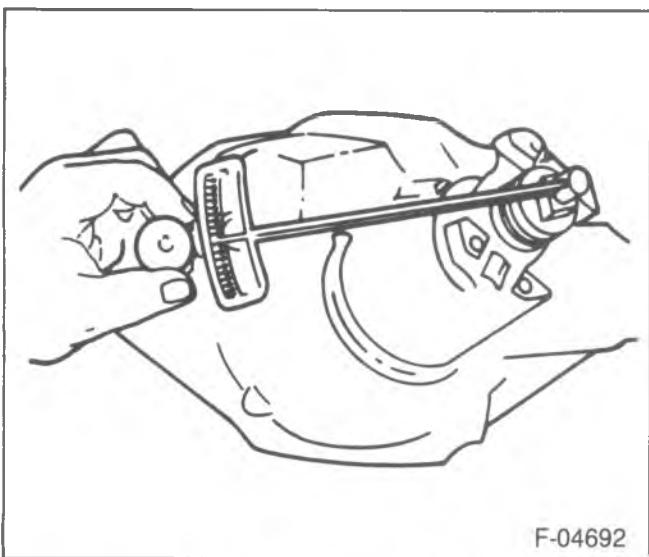

Figure 58—Checking Pinion Bearing Preload
- Remove J-8614-01. Using an inch-pound torque wrench, check the pinion preload by rotating the pinion with the wrench. Preload should be at or below 2.3 to 2.8 N·m (20 to 25 in. lbs.) on new bearings, or 1.1 to 1.7 N·m (10 to 15 in. lbs.) for used bearings (figure 58).